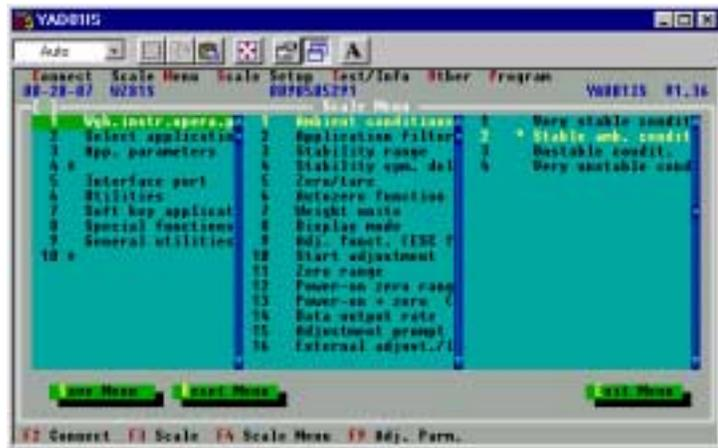

Figure 20
The parameters contained in the SETUP.PRN file will flash by in the window as the file loads. See Figure 20.
9. Using the keyboard, press the letter **S** to **Save** the setup file which was just loaded. See Figure 20.